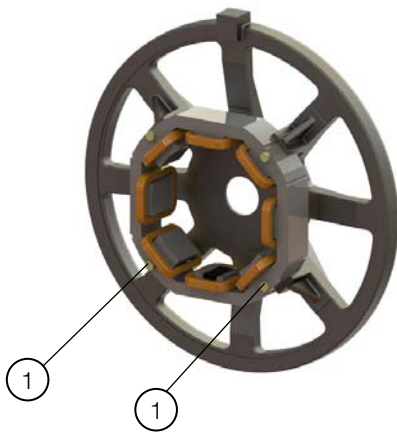

Figure 6.5: Tubular resistance support fixing points
4. With the cover disassembled, remove both lower fixing screw from the exciter stator, according to figure 6.5;